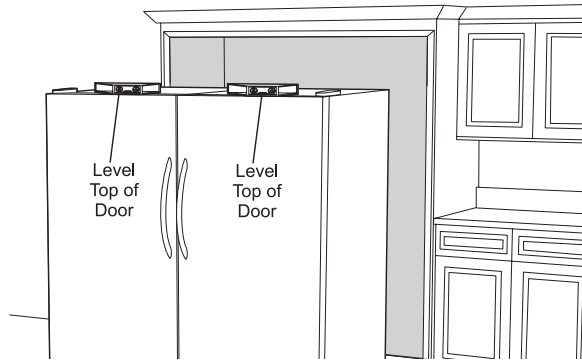

Figure 14
- Place a carpenter's level across the top of the door. Using a tape measure, adjust all four levelers so that each door is level and to a height of 69-3/8" across top front edge of door. See Figures 14 and 15.